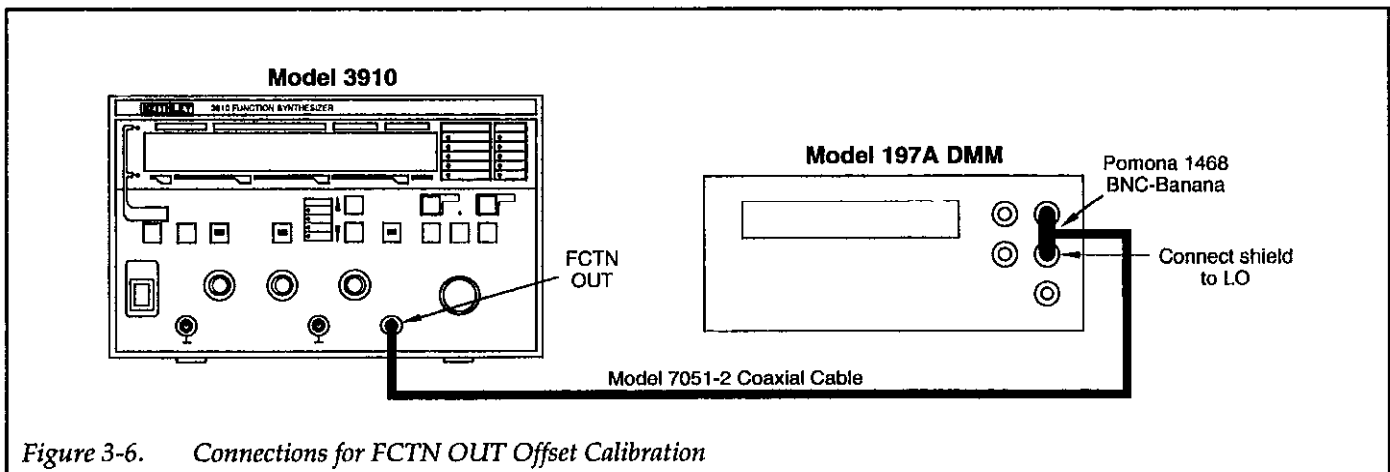

Figure 3-6. Connections for FCTN OUT Offset Calibration
1. Connect the DMM to the FCTN OUT jack, as shown in Figure 3-6.